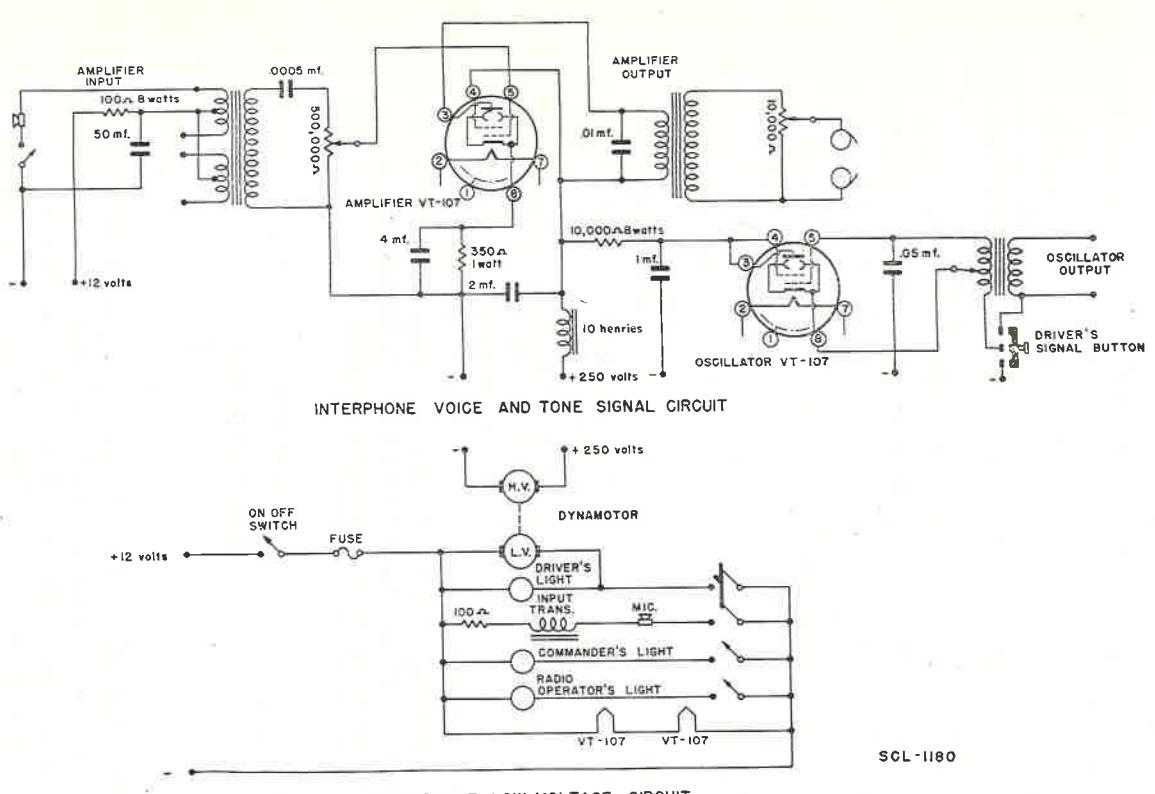

FIGURE 5.—Interphone amplifier BC-367, schematic circuit.
**5. Electrical features.—*a. Interphone amplifier BC-367.***—(1) This unit contains two separate circuits, an oscillator, and an amplifier (fig. 5). The oscillator circuit is used to generate an audio signal of approximately 600 cycles to provide a means for the driver to signal when he wishes to speak to anyone on the radio side of the system. When the driver's push-button switch is pressed, this audio voltage is impressed across the input of the second audio if radio receiver is used. The amplifier is of the transformer-coupled type and provides a maximum output of over 2 watts. The rising fidelity characteristic from 100 cycles to 2,500 cycles (attenuation at lower frequencies) tends to compensate for the poor high-frequency response of microphone T-30-A and to prevent excessive noise pick-up. The input transformer consists of a two-winding primary with each winding center-tapped, and a single-wound secondary. The audio-frequency voltage, after being stepped up by the input transformer, is applied through a potentiometer volume control to the grid of the amplifier tube. The output of this tube appears across the secondary of the output transformer. Various output impedances of this transformer can be obtained by use of the proper tap. The amplifier is shipped with an output impedance of 2,500 ohms in use. The direct-current microphone current is obtained from the car-battery source through a 100-ohm dropping resistor. A 50- $\mu$ f, 25-volt, electrolytic capacitor bypasses the audio component of the microphone current through the dropping resistor.